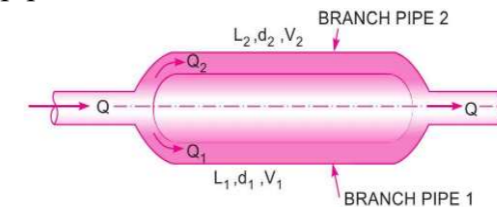

Figure 1
- (b) (i) A main pipe divides into two parallel pipes which again forms one pipe as shown in figure 1. The length and diameter for the first parallel pipe are 2000 m and 1 m respectively, while the length & diameter of 2nd parallel pipe are 2000 m and 0.8 m, find the rate of flow in each pipe, if total flow in the main $3 \text{ m}^3/\text{s}$. The co-efficient of friction for all pipe is 0.005. (14) 2 3